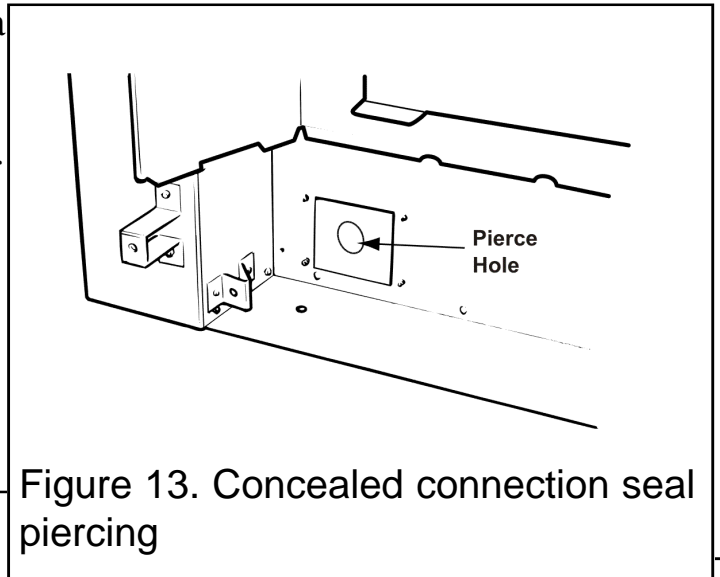

Figure 13. Concealed connection seal piercing
6. For concealed connection only: Pierce a hole in the seal at the back of the convection box. See figure 13. The seal must envelop the pipe. If the hole is larger than the pipe, seal it with tape. Do not pierce the seal unless the supply pipe is to pass through it.